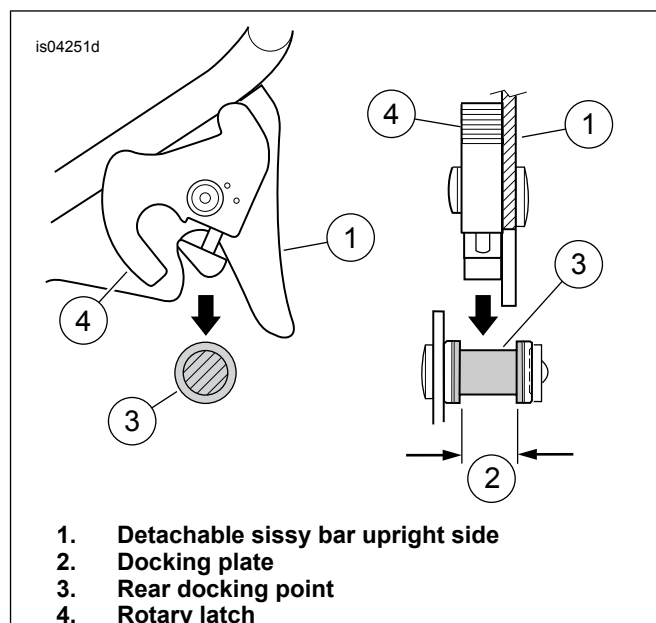
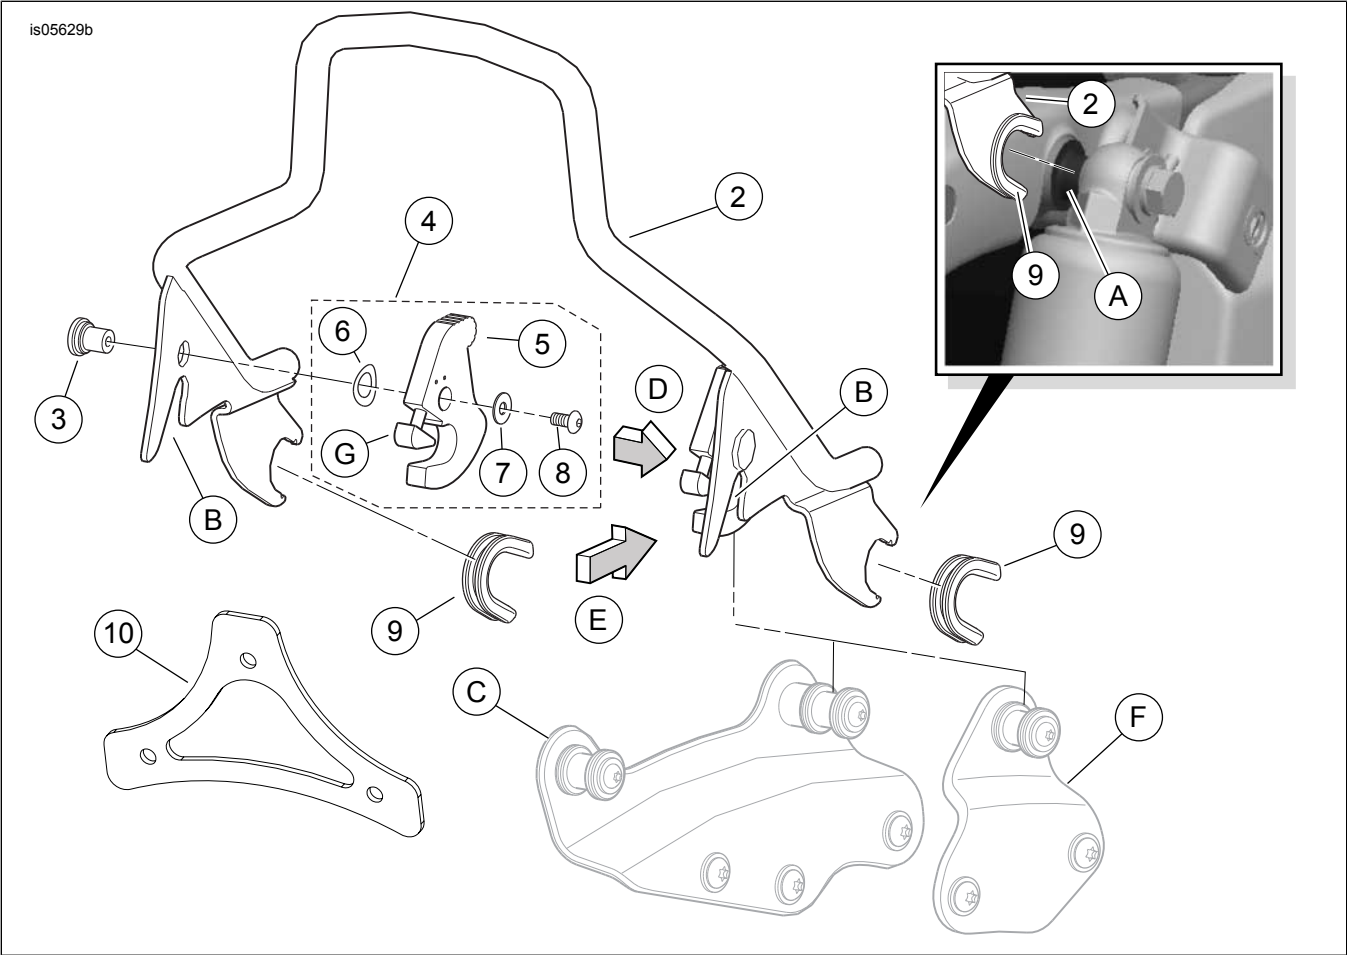

Figure 1. Proper Alignment of Latch in Rear Docking Point, Views in Direction of Arrows (D) and (E)
Figure 3. Service Parts: H-D Detachables Touring Sissy Bar Uprights
See Figure 3 and Table 1.
2. See Figure 3. Stand behind the motorcycle. Place the left side and right side front upright notches (with bushings in place) onto the docking points (A) inboard of the upper shock absorber mounts. Make sure the notch bushings (9) seat fully into the shock absorber docking points.
3. See Figure 3, arrows (D) and (E), and Figure 1. Position the rotary latches (4) over the rear docking points (3). Verify the upright sides (1) and latches fit into the neck of the rear docking points as shown. This may require some gentle squeezing or spreading of the sissy bar upright sides.
*** After installing the sissy bar upright, verify the sissy bar is secure. The front and rear docking points must be fully engaged. See Figure 1 for correct engagement.**
5. To remove the sissy bar upright, press the release button (G) on each side. Pull the latch levers back. Carefully lift the rear of the sissy bar up. Pull the upright out of the front docking points.
D	To right side of vehicle (view direction for Figure 1)
E	To front of vehicle (view direction for Figure 1)